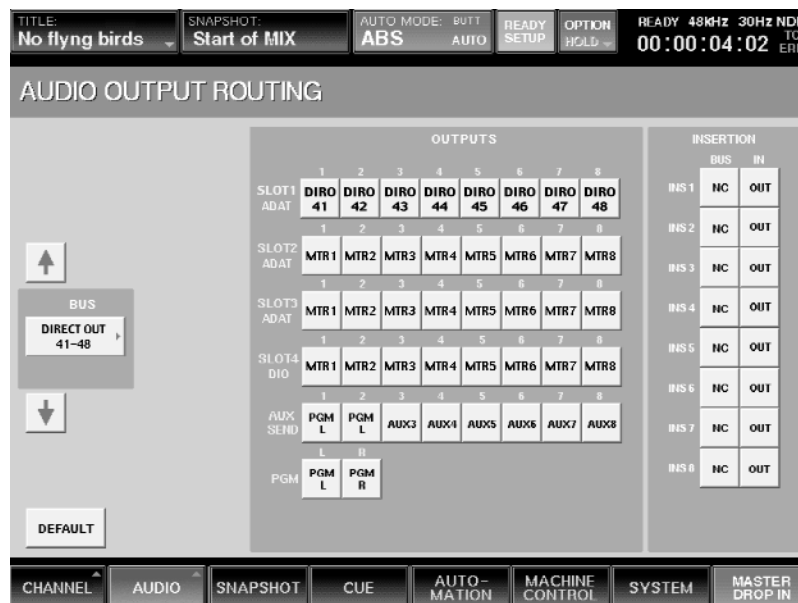

Figure 24
- 6 You can also make output assignments in blocks. To do so, simply press the desired BUS button once only, then press the OUTPUT button of the first of the contiguous output connectors you wish to make the assignment to. For example, to assign Direct Outputs 41 - 48 to the Slot 1 output, press the DIRECT OUT 41 - 48 BUS button once, then press the first of the eight Slot 1 outputs. (See Figure 24)